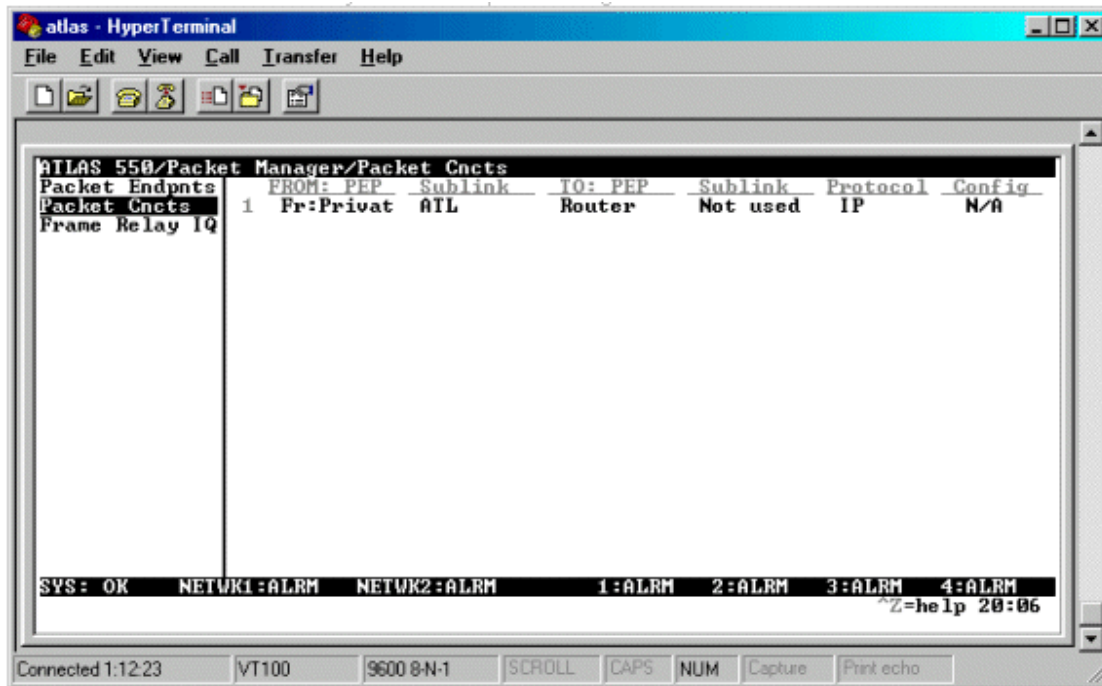

Figure 7
After the packet endpoint is created and configured with the appropriate DLCIs, the endpoint needs to be linked. In this example, we will be using the ATLAS' internal router. This configuration will require a packet connect from the endpoint, *Atlanta* sublink, to the internal router (see **Figure 7**).
6. Press <enter> on **Protocol** and select **IP** as shown in **Figure 7**.